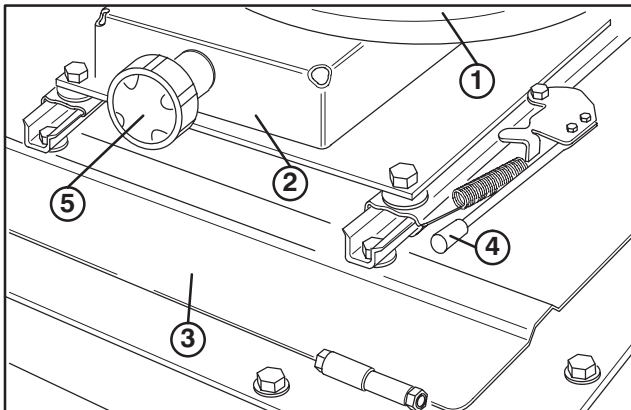

Figure 7
- Adjust seat for operator's comfort and weight. To adjust seat fore and aft, pull handle on left side of seat assembly outward (Fig. 7). Release handle to lock seat position. To adjust for operator's weight, turn spring tension knob; clockwise to increase tension, counterclockwise to decrease spring tension (Fig. 7).